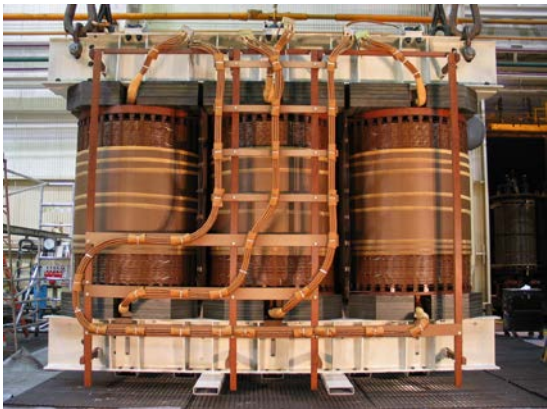

Fig. 6
- Similarly, because they have no moving parts, they are astonishingly efficient. Even the small grey cylindrical things you see on hydro poles outside your house, (Fig 1) have efficiencies of 97% or better, while the really big ones in major substations (see Figs 6 & 7) have efficiencies of 99.9% or better.
- A really large "power" transformer would look something like that shown in Figs 6 and 7. There would be a substantial steel "core", rectangular in shape and looking rather like a large picture frame. The whole of the upper part of the core would be removable, to permit placement of the coils.